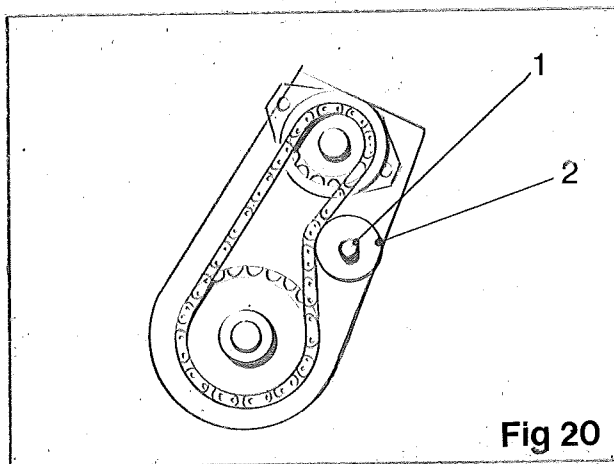

Fig 20
The discharge elevator drive chain can be adjusted for tension by loosening the retaining bolt (item 1, fig 20) and sliding the wooden tensioner block (item 2, fig 20) in the required direction.